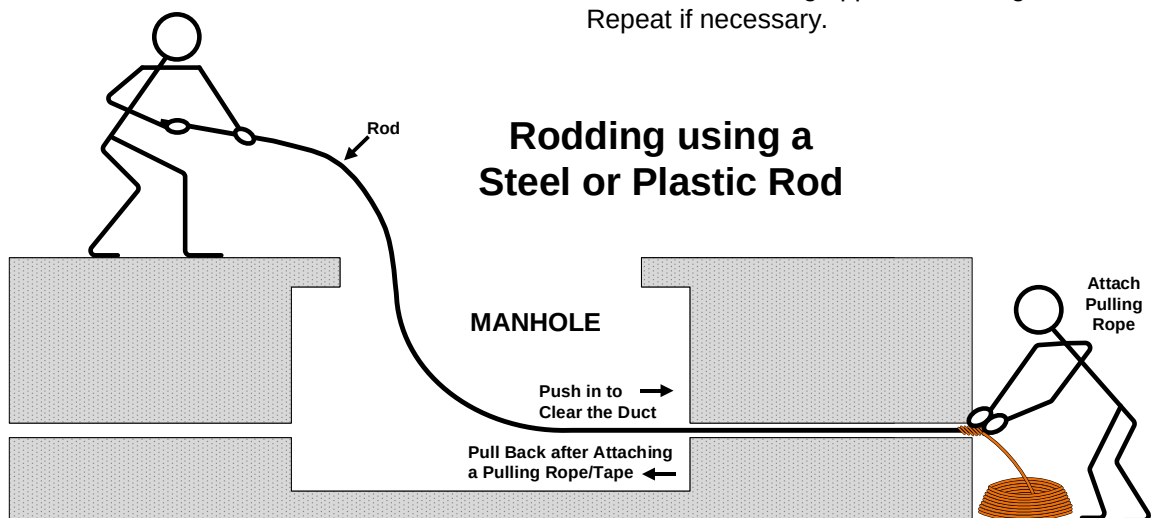

Figure 15
15.1.2 Attach pulling rope to front end of rod and pull rod and rope back through and out of the duct entrance. **See Fig. 15.**